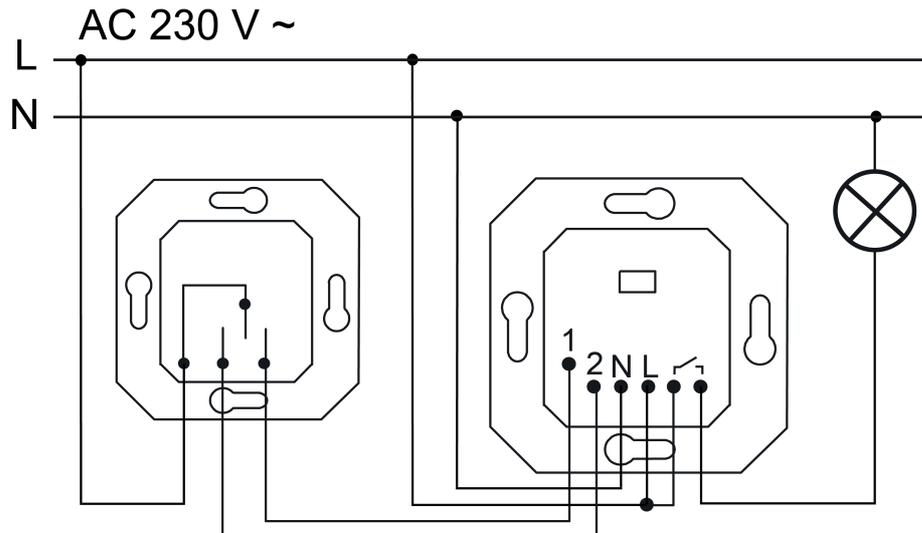

Figure 4: Connection example with mechanical extension
- Optionally, connect the extensions to the terminals 1 (OFF) and 2 (ON) (Figure 4).